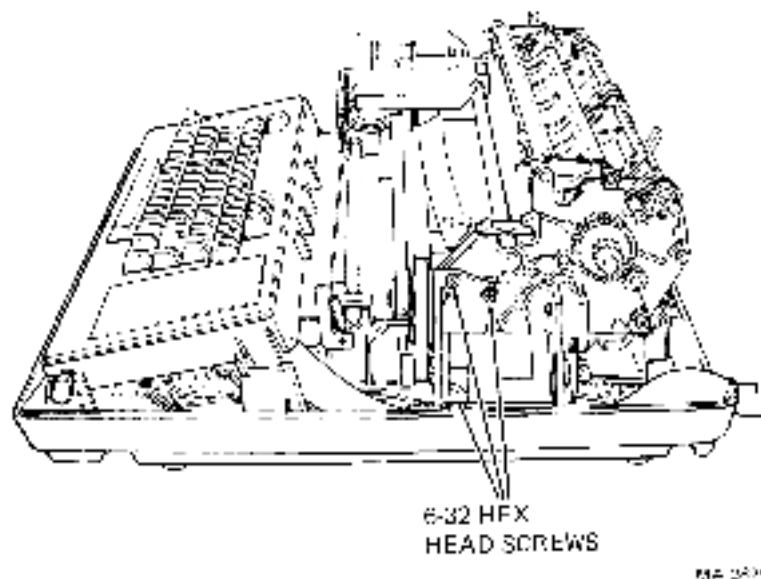

Figure 7-16 Servo Motor/Encoder Removal
6. Remove the three hex-head screws securing the motor to the right side plate (Figure 7-16).